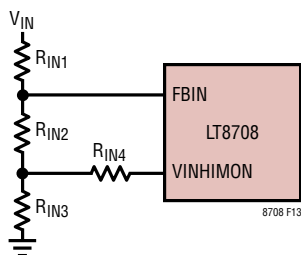
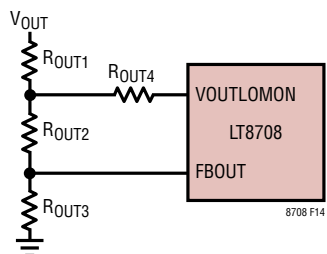

Figure 13. Single Divider for VINHIMON and FBIN
Figure 14. Single Divider for VOUTLOMON and FBOUT
2. Connect a resistor divider between V_{IN} , $FBIN$, $VINHIMON$ and GND to configure the V_{IN} regulation and overvoltage thresholds (see Figure 13). Connect a resistor divider between V_{OUT} , $VOUTLOMON$, $FBOUT$ and GND to configure the V_{OUT} regulation and under-voltage thresholds (see Figure 14).
R_{IN1-4} and R_{OUT1-4} are shown in Figure 13 and Figure 14.